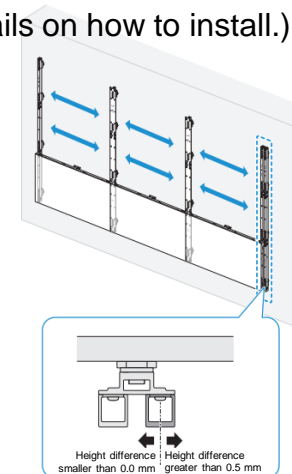

Fig.8 Adjusting height difference
- ⑦ **Roughly adjust the height difference between the left and right sides, and make fine adjustment as shown below. (See Fig.8.) ★ Very important**